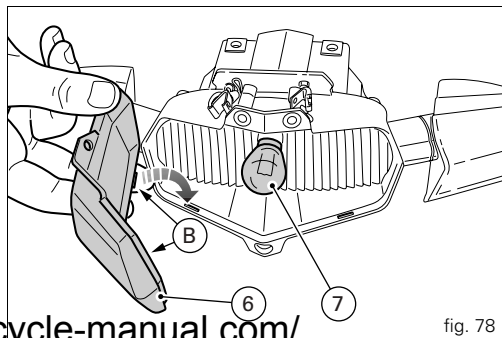

fig. 78
Push and twist the bulb (7) anti-clockwise to remove it (fig. 78).